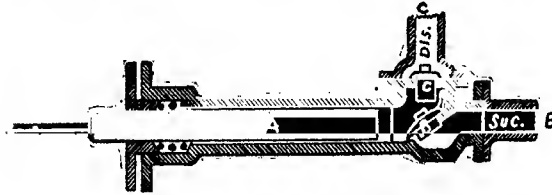

FIG. 13.—PLUNGER FORCE PUMP.
(2) a boiler is a very dangerous piece of machinery unless it is supplied with enough water to keep the heating surfaces always covered with it so as to prevent overheating the metal.
**Crosshead Pump.**—This is a simple plunger pump (Figs. 13 and 14) consisting of a plunger from five-eighths to one and an eighth inches in diameter, according to the size of the engine, working in a cylinder slightly larger in bore than the plunger. The cylinder is somewhat longer than the stroke of the plunger. It is fitted with a packing gland at the end where the plunger rod comes through the cylinder, while the other end is connected to the valve chamber, which contains a suction and a discharge valve besides an air chamber. The plunger rod is made of steel and extends
The operation of the pump is as follows: When the plunger A (Fig. 13) is drawn outward it creates a vacuum in the cylinder. The pressure of air on the water in the supply tank (provided it is open to the atmosphere) will force it up the suction pipe through the suction valve B and into that part of the cylinder left vacant by the receding plunger. If the suction pipe is not under water, the